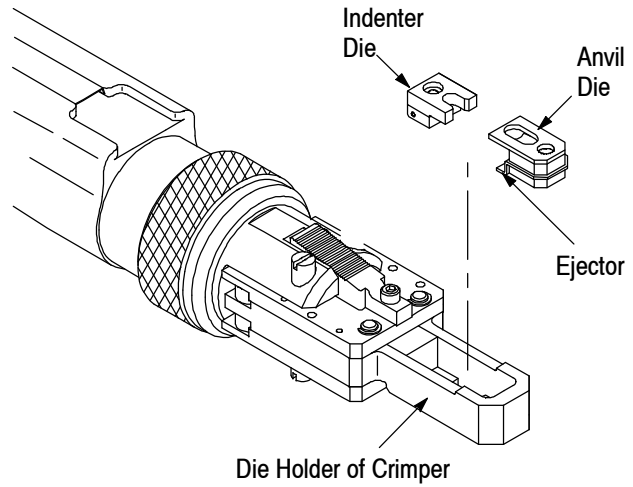

Figure 2
1. Assemble the anvil (stationary) die to the indenter (movable) die as shown in Figure 2. The anvil is identifiable by the chamfers and the ejector.